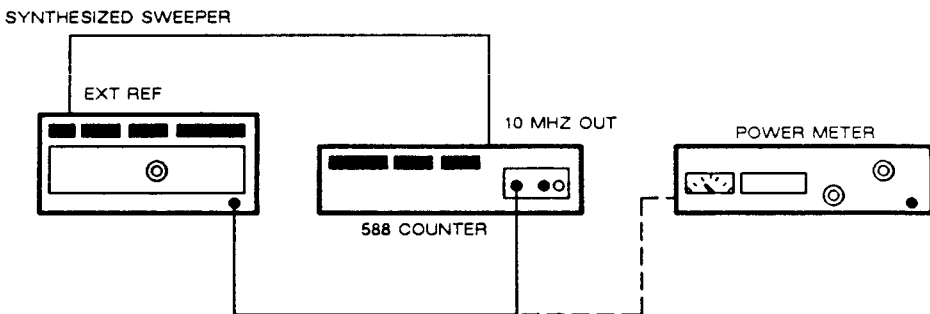

Figure 4-3. Band 1 Minimum and Maximum Frequency Test Setup
1. Connect equipment as shown in Figure 4-3.